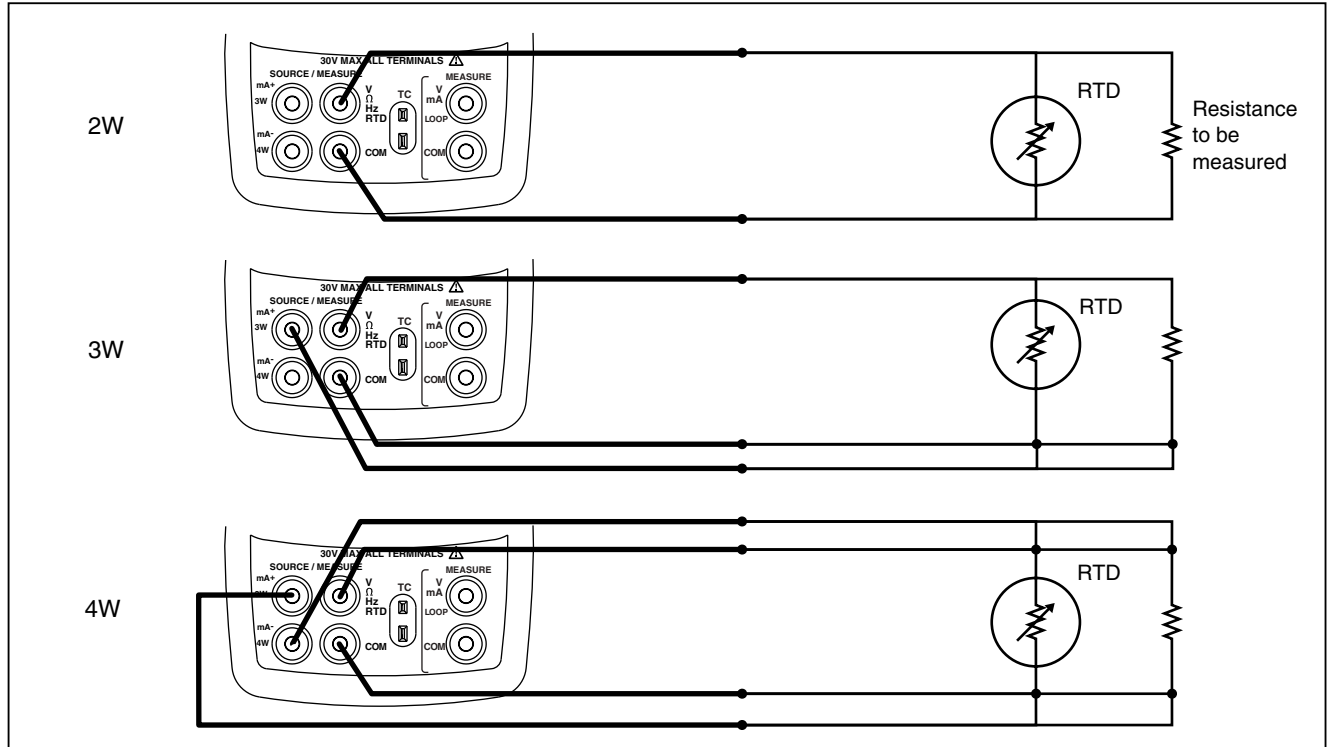

Figure 11. Measuring Temperature with an RTD, Measuring 2-, 3-, and 4-Wire Resistance
4. Attach the RTD to input terminals as shown in Figure 11.